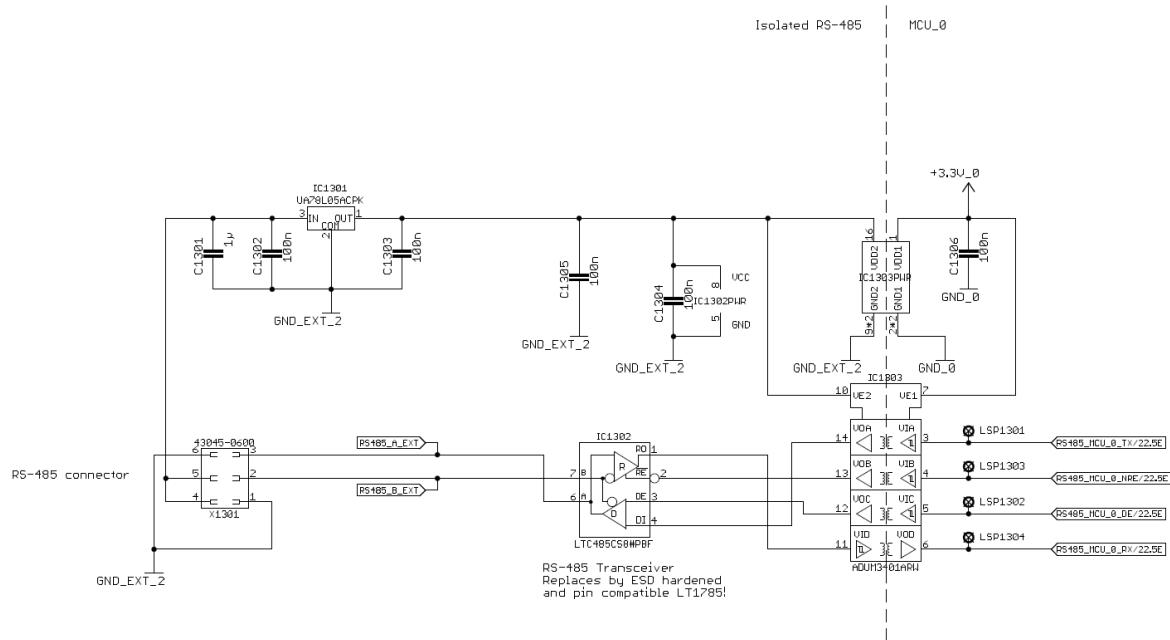

Fig. 17.14: Isolated RS485 interface circuit
can be connected to the foxBMS Master Unit. Fig. 17.14 shows the RS485 interface schematic. The external part of the circuit is supplied via a voltage applied to pins 5 (7V - 20V) and 6 (GND) of connector X1301. The external supply voltage is also available on pin 1 (GND) and pin 4. IC1301 provides 5V supply voltage for the transceiver (IC1302) and the external side of the isolator (IC1303). The transceiver (LT1785) features a receiver enable (!RE) and a driver enable (DE) functionality, which can be controlled by the primary microcontroller via the signals RS485 MCU0_NRE and RS485 MCU0_DE respectively. For data transmission the signals RS485 MCU0_TX and RS485 MCU0_RX are used. The data signals and the enable signals are galvanically isolated from the BMS-Master Board by an ADUM3401 isolator IC.